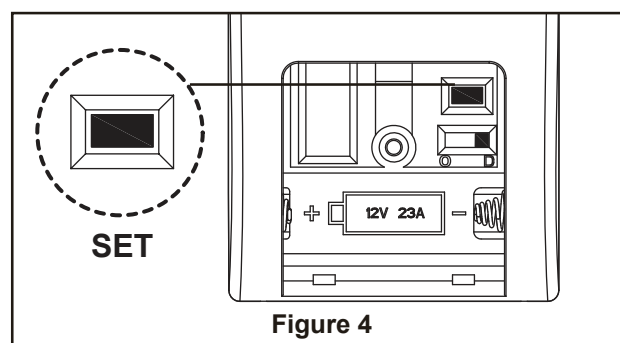

Figure 4
- 4.** Shut off power to your fan, then restore power. Within 30 seconds of restoring power, press the SET button inside the battery compartment and hold for 3 seconds. The light will blink twice and the fan will begin running. The remote will now be programmed to your fan and ready for use. (Figure 4)